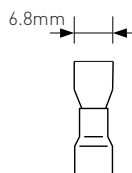

Figure 2:
Up to 14 independently-fused loads, may be connected. Loads are attached using female spade Quick Connects (QC). See Figure 2: Quick Connect Dimensions.